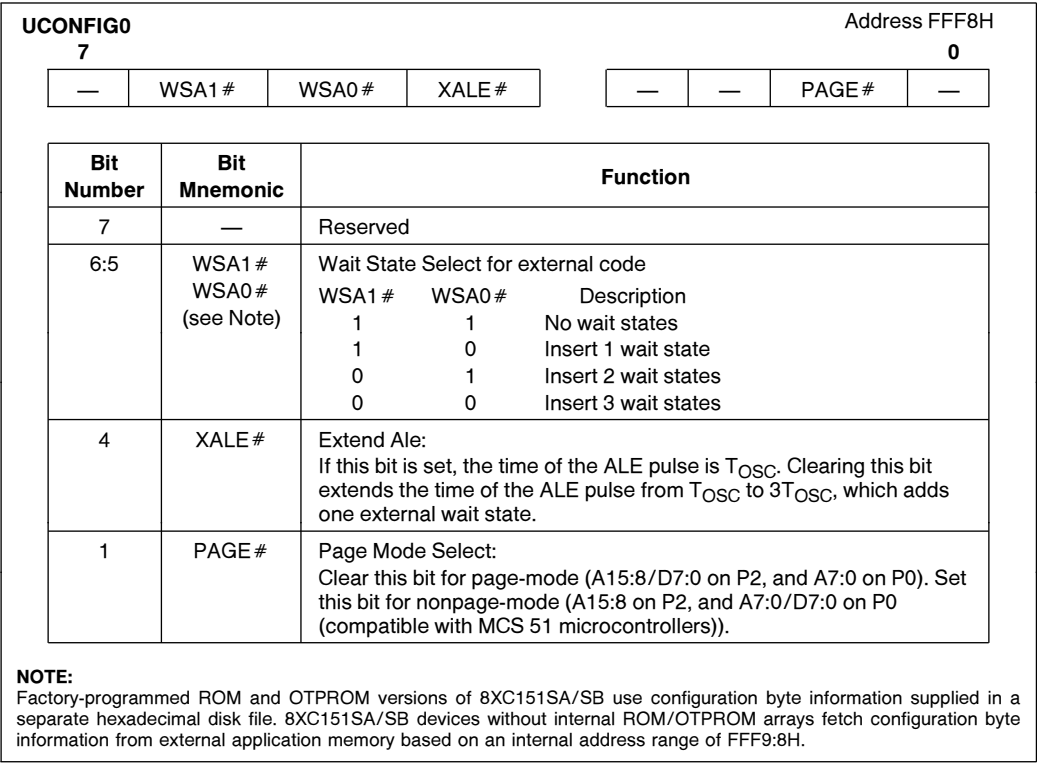
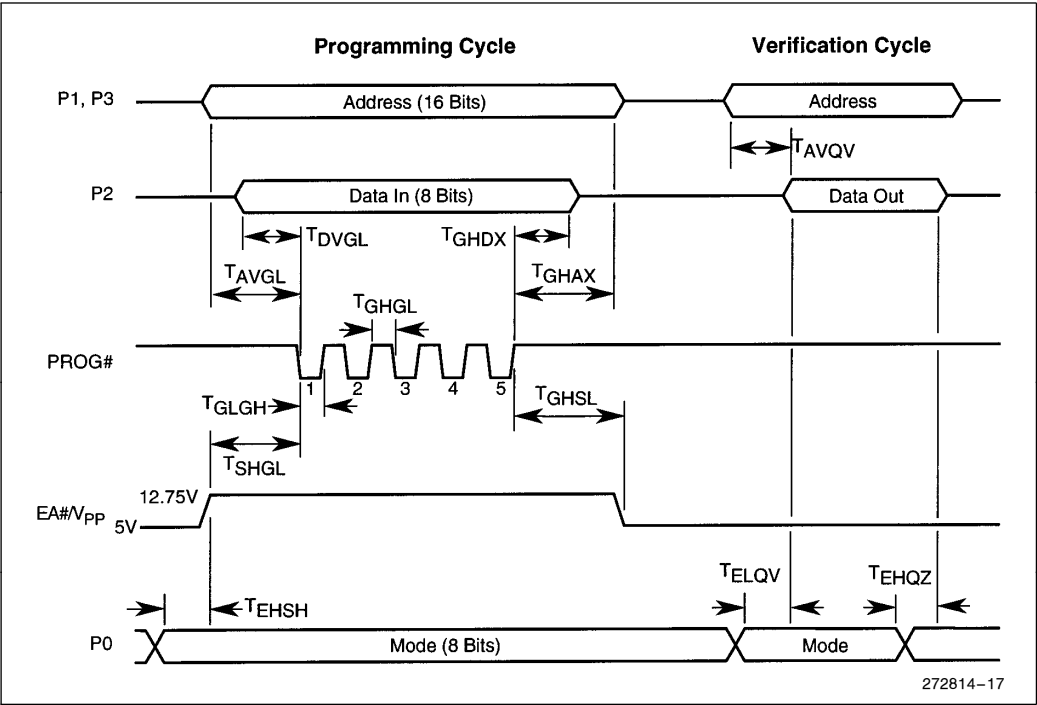

Figure 17. Configuration Byte 0
Figure 19. Timing for Programming and Verification of Nonvolatile Memory
Information in Figures 17 and 18 define the configuration bits. Figure 19 shows the waveforms for the programming and verification cycles, and Table 12 lists the timing specifications. The signature bytes of the 83C151SA/SB ROM versions and the 87C151SA/SB OTPROM versions are factory programmed. Table 13 lists the addresses and the contents of the signature bytes.
1. The PROG # pulse waveform is shown in Figure 19.